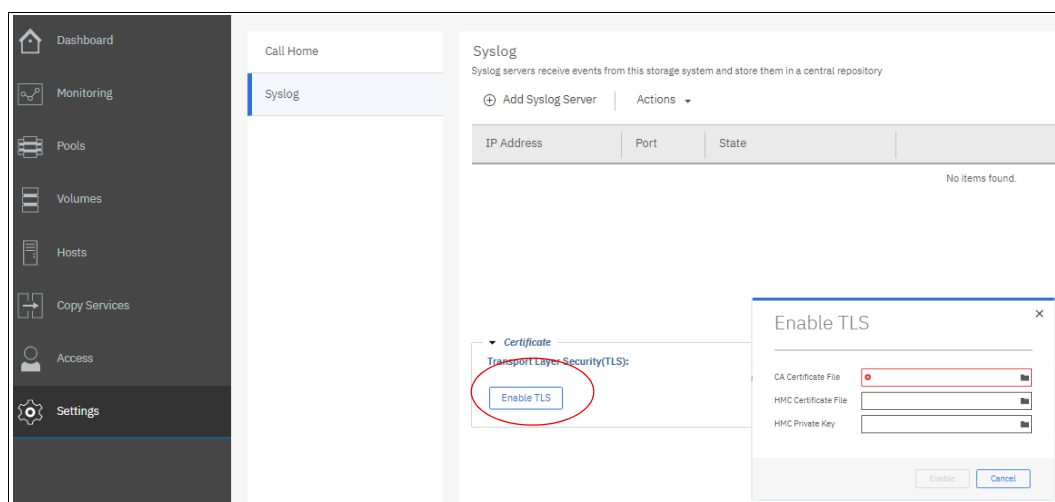

Figure 9-29 Enable TLS window
**Note:** A DS8900F server must use TLS for its communications with the syslog server. To configure TLS, the customer must generate their own trusted certificate for the DS8900F syslog process with the CA and import the trusted CA file, signed machine (in this case the HMC and syslog process) syslog server certificate file, and key file, as shown in Figure 9-29.
The files that are entered into the fields that are shown in Figure 9-29 are:
3. To enable TLS, in the Certificates area, click **Enable TLS**, as shown in Figure 9-29.